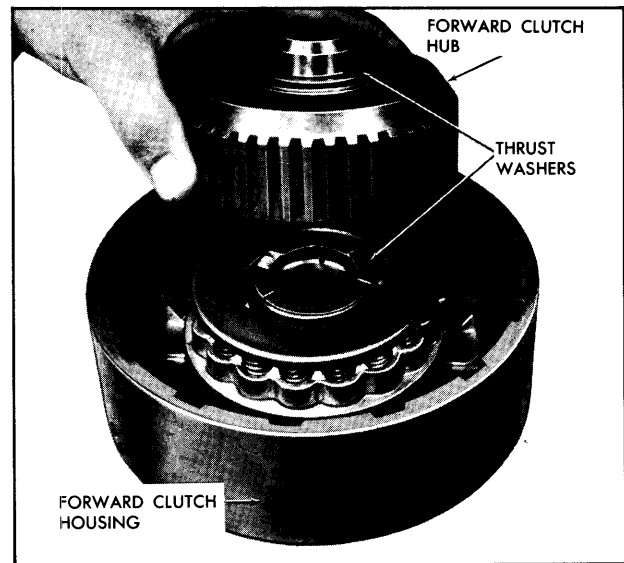

Fig. 7E-161 Installing Forward Clutch Hub
6. Compress springs using clutch compressor Tools J-6129, J-4670-14, and J-8765 and install snap ring. (Fig. 7E-160)